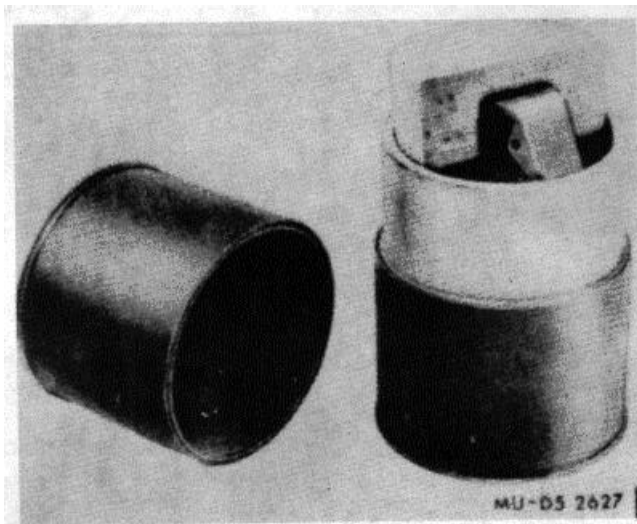

Figure 2-0.2. Hand grenades packed right side up (fuze up) without safety pin and pull ring. MU-D5 2627
- **IF HAND GRENADE IS PACKED UPSIDE DOWN (FUZE DOWN) (-G. 2-0.1), OR RIGHT SIDE UP F-UZE UP) WITH SAFETY PIN .N.OT IN PLACE (FIG. 2-0.2), DO NOT ATTEMPT TO REMOVE GRENADE FROM ITS CONTAINER.**
- **WHEN EXPOSED TO RED PHOSPHORUS (RP) OR HEXACHLOROETHANE (HC) SMOKE OR ANY RIOT CONTROL AGENT, THE FOLLOWING RECAUTIONS APPLY:**